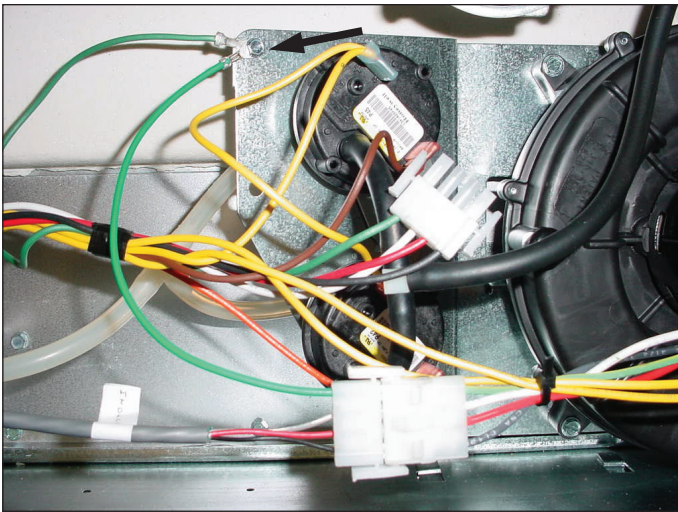

FIGURE 2 UPFLOW
6. Locate the end of the shielded cable harness labeled "INDUCER END" and connect the 4 pin connector to the inducer. Secure the Green ground lead found on the 4 pin connector to the pressure switch mounting plate. See Figure 2.